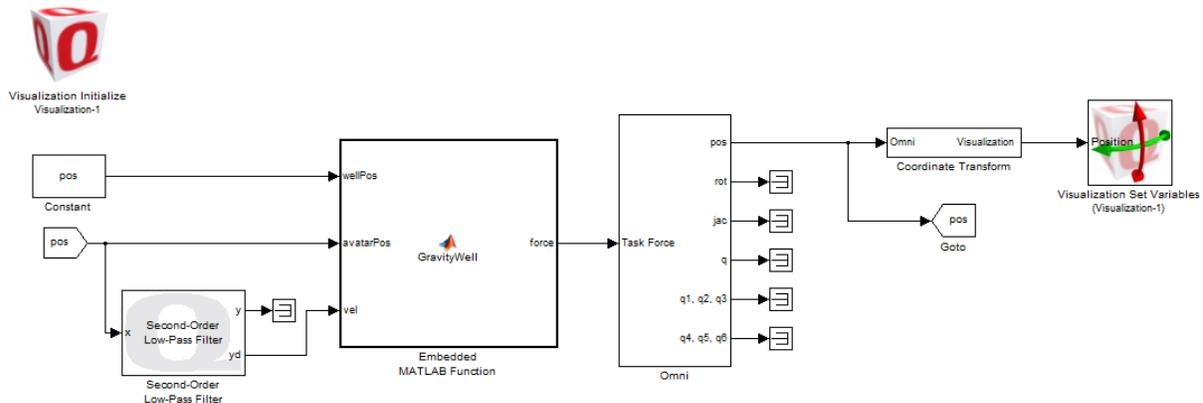

Figure 10.10: Multiple gravity well model
6. Add a **Visualization Initialize** block and **Visualization Set Variable** block and configure the visualization to use the **Gravity_Wells_Bonus.xml** scene file. Your model should resemble Figure 10.10.